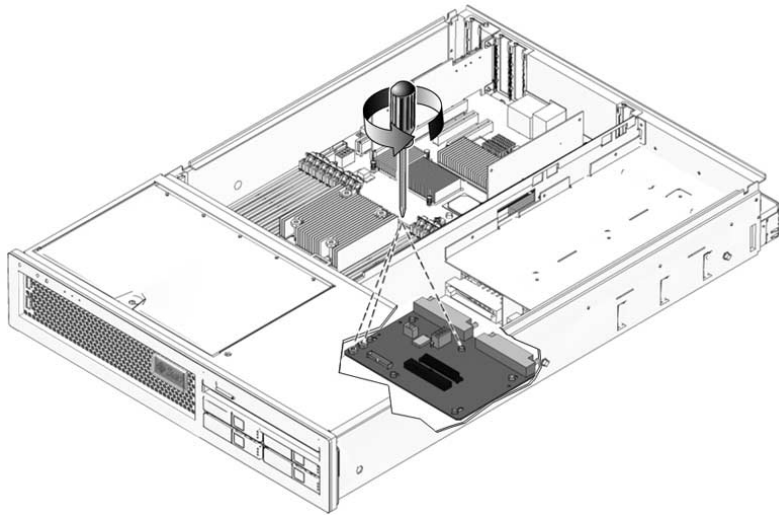

FIGURE 5-19 Removing the Power Distribution Board
5. Remove the screw (FIGURE 5-19) that secures the power distribution board to the chassis.
6. Slide the power distribution board toward the front of the chassis and remove it from the chassis (FIGURE 5-19).